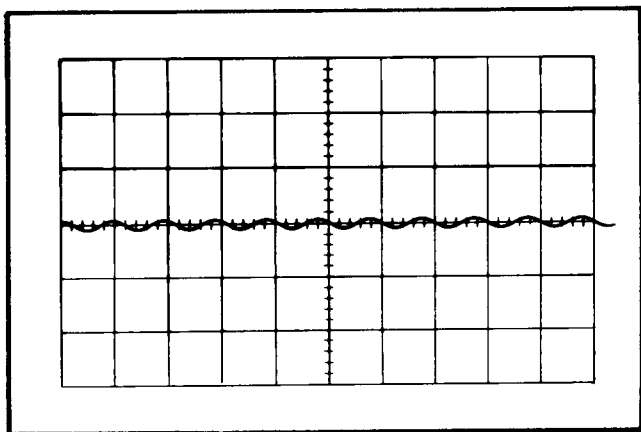

Fig. 6-40. Typical CRT display when checking high-frequency reject operation at 50 kilohertz.
c. CHECK—Stable CRT display (see Fig. 6-40) can be obtained with the B LEVEL control.
- i. CHECK—Stable CRT display (see Fig. 6-40) can be obtained with the A LEVEL control.